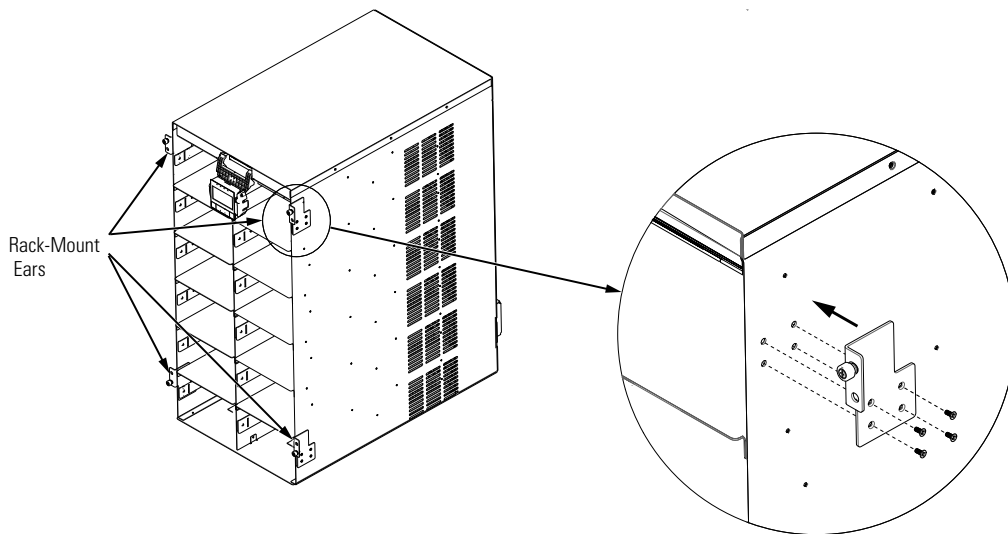

Figure 10. Rack-Mount Ear Installed
1. Install rack-mount ears (two per side) on each side of the UPS cabinet (see Figure 10).